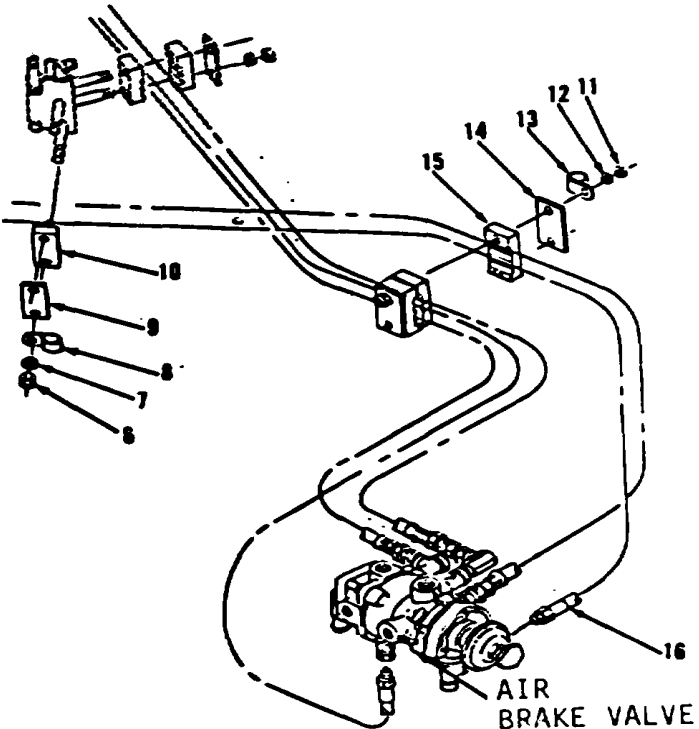
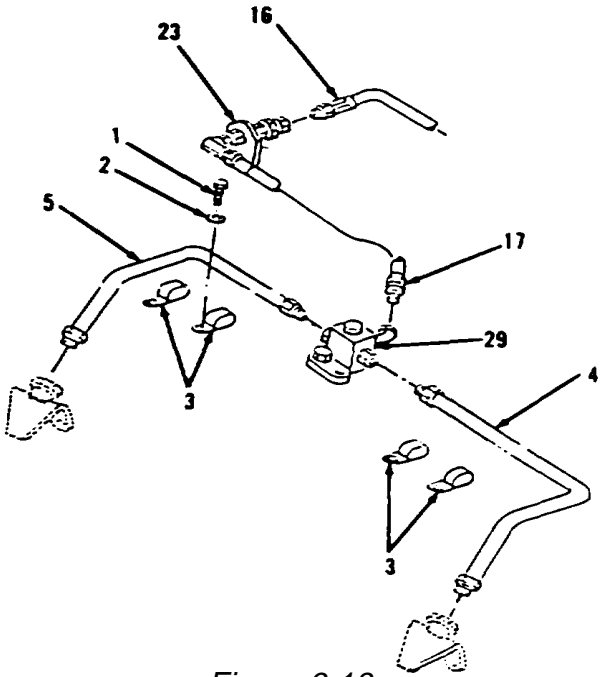

Figure 6-19.
Figure 6-18.
- 20. Install hose assembly (16, Figure 6-19) on air brake valve.
- 21. Install clamp (15).
- 22. Install plate (14), clip (13), two washers (12) and nuts (11).
- 23. Install clamp (10).
- 24. Install plate (9), cup (8), two washers (7) and nuts (6) under front, right side of engine compartment.
- 25. Connect hose assembly (16) to plate (23, Figure 6-18).
- 26. Connect hose assembly (17) to block (29).
- 28. Connect tube assemblies (5 and 4) to block (29).
- 29. Install four clips (3).
- 30. Install two washers (2) and bolts (1).